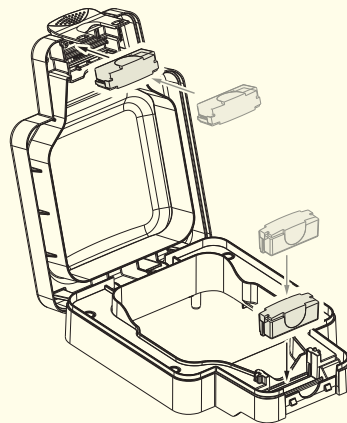

Figure 8
- Carefully remove the two cable seal capsules with a flat bladed screwdriver and discard. Refer to Figure 8.